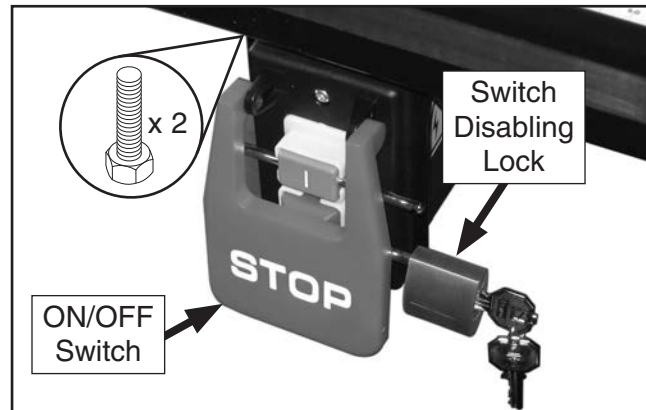

Figure 13. Switch installed.
9. Fasten ON/OFF switch to left end of front rail with (2) M8-1.25 x 12 hex bolts then insert switch disabling lock, as shown in **Figure 13**.